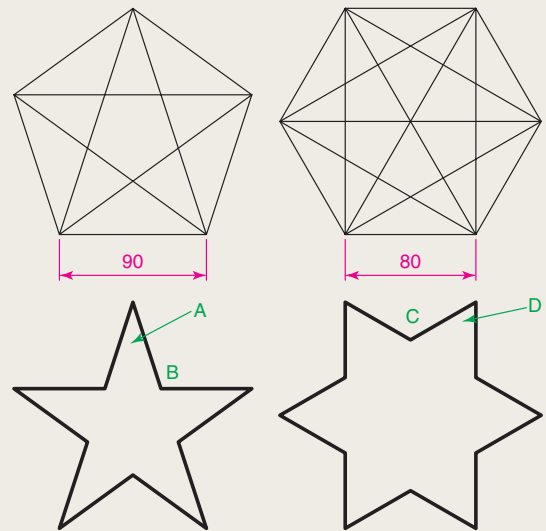

Fig. 6.30 Exercise 4
4. Construct two polygons as in Fig. 6.30 and add all diagonals. Set osnaps **endpoint** and **intersection** and using the lines as in Fig. 6.30 construct the stars as shown using a polyline of width = 3. Next erase all unwanted lines. Dimension the angles labelled **A**, **B**, **C** and **D**.